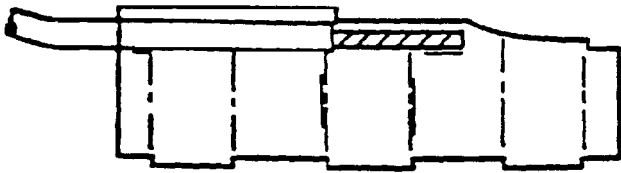

Figure 2 . Immersion Resistant Solder Sleeve
14. **IMMERSION RESISTANT SOLDER SLEEVES (PREFERRED).** Immersion resistant solder sleeve shield grounding terminations provide a strong, environmentally sealed, soldered connection which is both completely insulated and encapsulated. They are can be procured with a pre-installed ground lead to provide: a single pre-assembled part. The preinstalled ground lead combined with the solder sleeve termination method means part positioning and installation are exceptionally fast, easy, and convenient (Figure 2).